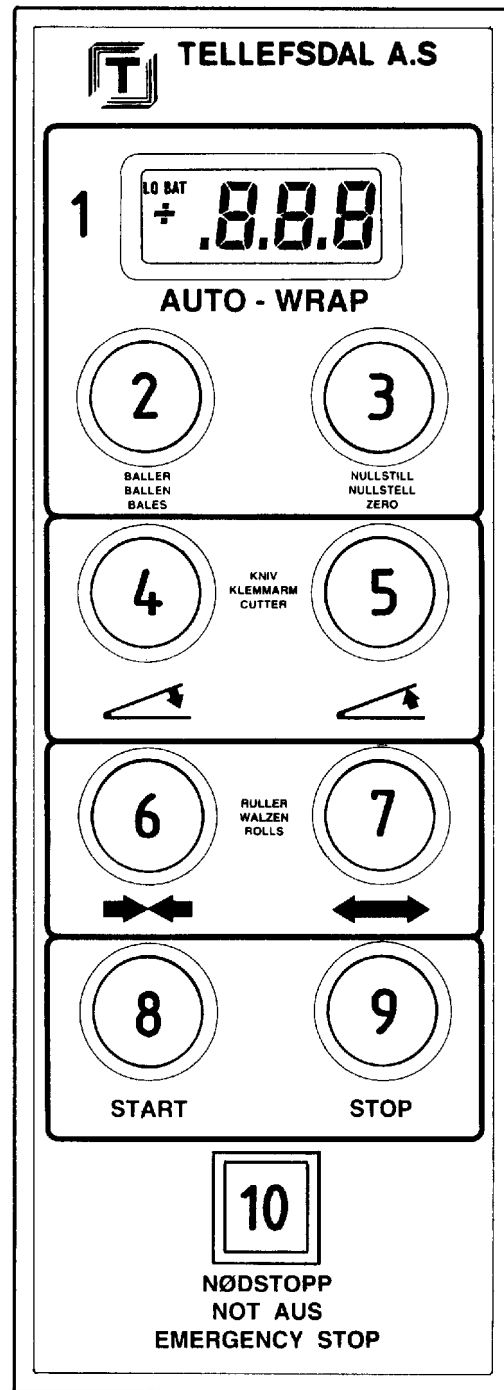

Fig. 7-1
On the front panel of the control box there are 8 press-buttons for the functions, an LCD display and an emergency stop button. We will go through the various functions of the display and the different buttons, and describe the different combinations that are possible. Each particular button is described in the text both in terms of its function, e.g. "**START**", and in terms of its position as shown in the drawing of the control box (fig. 7.1), e.g. (2).